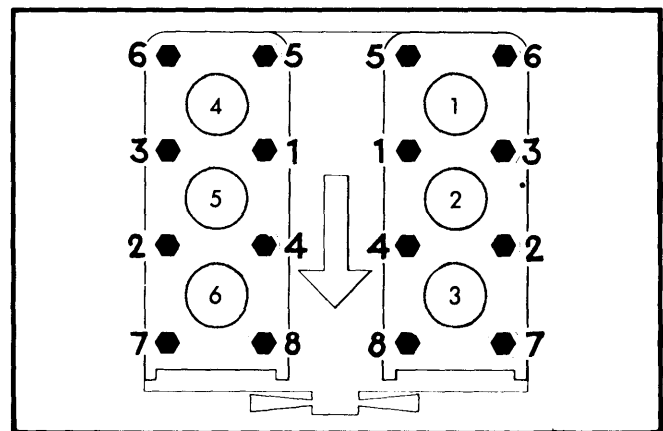

Fig. 1 Sequence for Removing and Installing Cylinder Head Bolts
7) Rotate each camshaft until large hole in sprocket aligns with rocker arm shaft. Remove rocker arm and shaft assembly by removing bolts in sequence shown in Fig. 1. Loosen bolt and push camshaft lock fork to one side.
2) Position rocker arm and shaft assembly and install cylinder head bolts. Tighten all bolts in sequence shown in Fig. 1 in three stages:
3) Torque camshaft center bolt and remove sprocket retainer (5104). Center lock fork over camshaft and tighten. Back off all cylinder head bolts in sequence, Fig. 1. Tighten to 11-14 ft. lbs. Using protractor (5098) on standard socket, torque head bolts as follows: